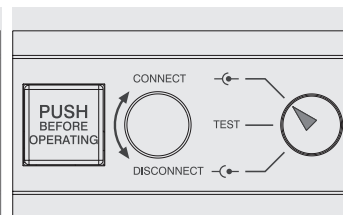

Figure 53
- circuit-breaker in connected position (see Figure 53)